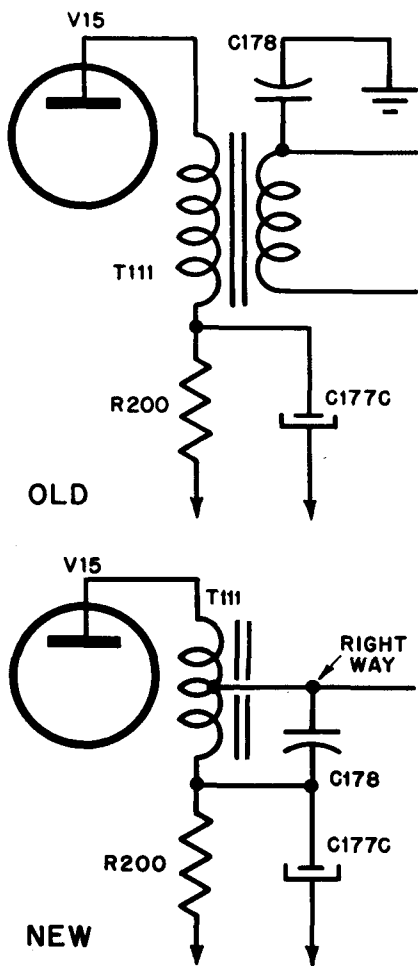

Fig. 9 — Arvin
**Audio buzz at minimum volume setting (see Fig. 9).**